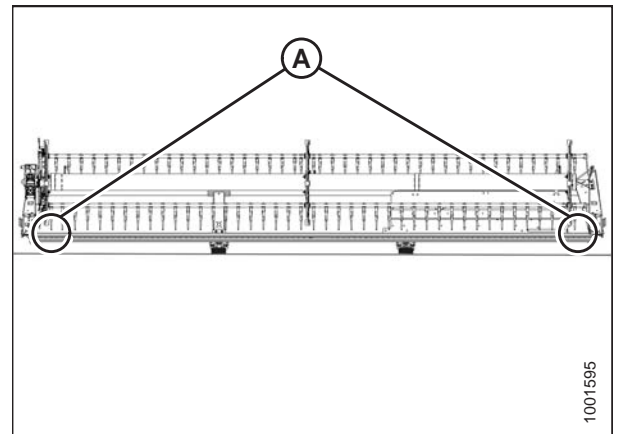

Figure 5.28: Single Reel Measurement Locations (Two Places)
5. Measure the clearance (X) at all possible points of contact (between points [B] and [C] at the ends of each reel [A]) as shown in Figure 5.28, page 65 and 5.29, page 65.